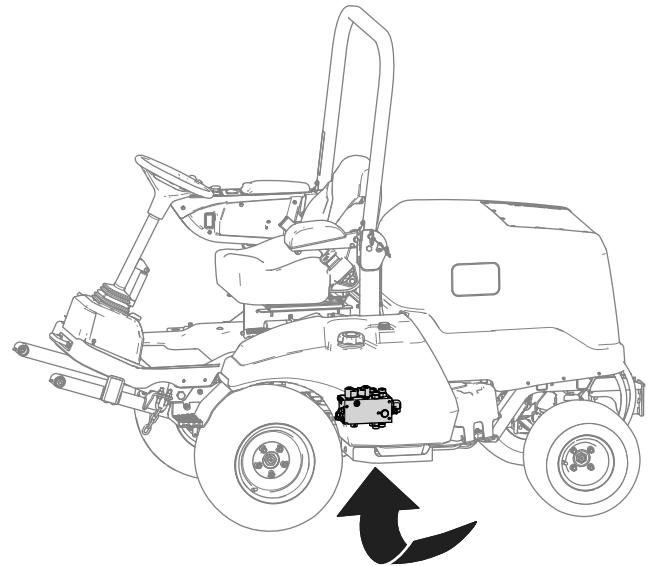

Figure 19
3. Locate the lift manifold from under the machine (Figure 19).